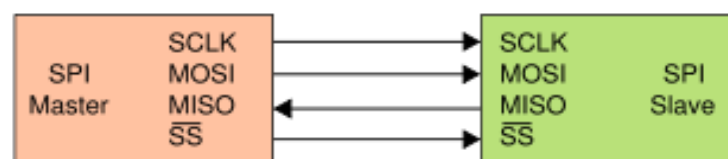

Figure 2: Interfacing design
- (b) The interfacing design in Figure 2 is referred.